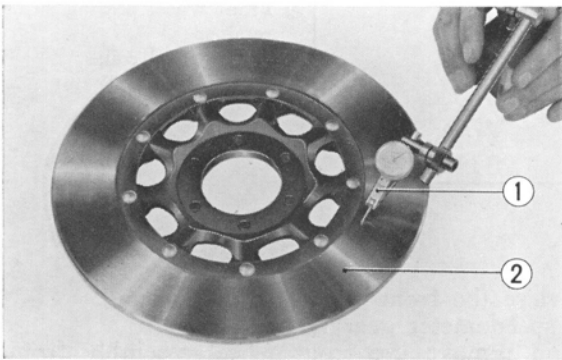

Fig. 200 ① Dial gauge ② Front brake disc
2. Checking rim wobble and wheel runout. Spin the wheel by hand and check both wobble and runout using a dial gauge as shown in Fig. 200.